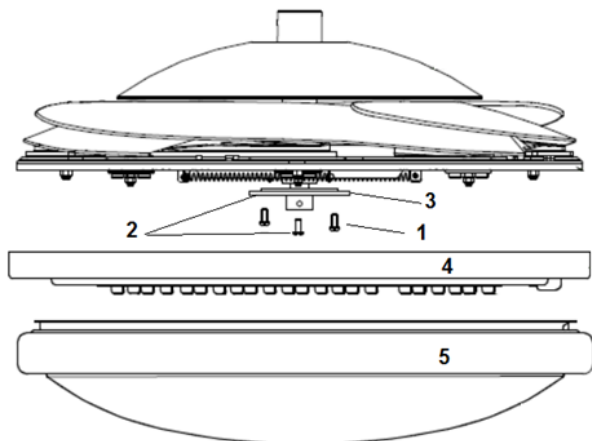

Fig. 6
- Loosen the screw (1) from the base bracket (3). Align the two slot screws (2) with the keyhole slots of the lamp base (4). Fig.6
- Finally install the lamp shade to the lamp base by turning it clockwise (5 – Fig.6).